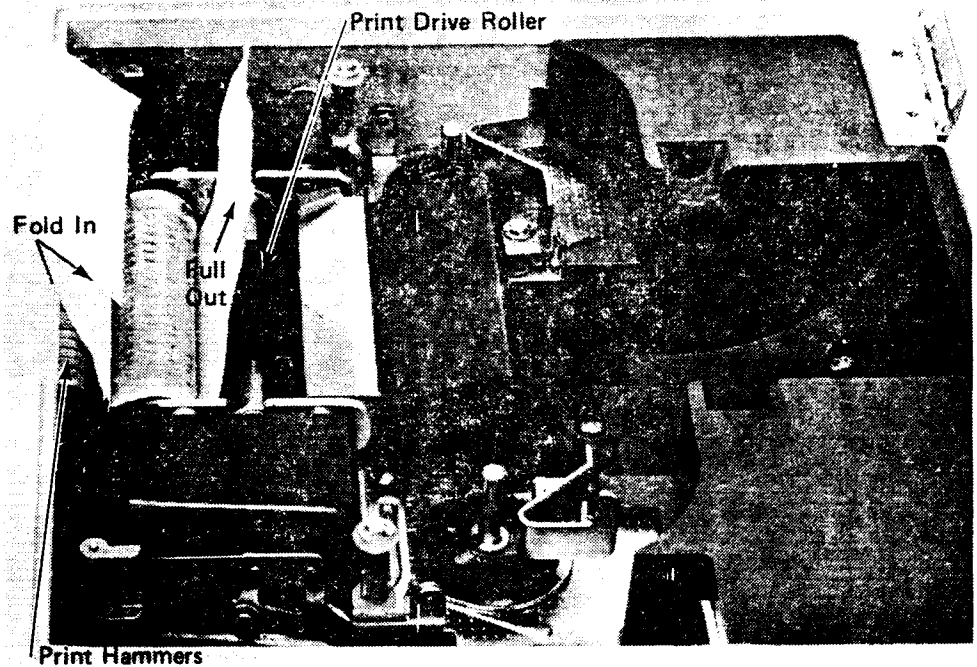

Figure 3-2. The 6" Strip of Paper Inserted During Cleaning
5. Slide the 6" strip of printer paper (from step 1) around the print drum (see Figure 3-2).